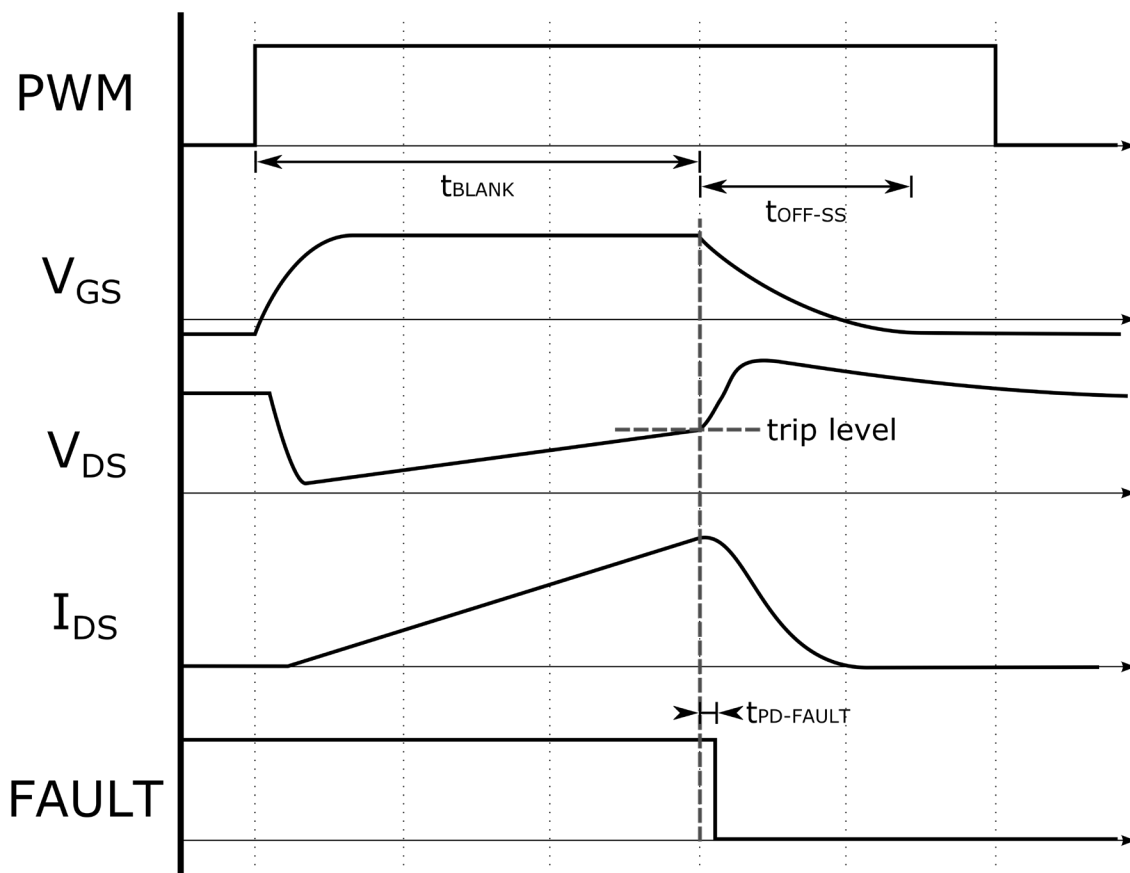

Figure 41: Overcurrent fault timing diagram
An overcurrent (OC) fault is an indication of a shoot-through or elevated current event in the SiC power module. The overcurrent protection circuit is implemented through a desaturation (DESAT) circuit which measures the drain-to-source voltage (V_{DS}). The fault will indicate if this voltage has risen above an acceptable current level based on the I_D vs V_{DS} characteristics of the device. When a fault has occurred, the corresponding gate driver channel will be disabled, and the gate will be pulled down through a soft turnoff circuit. The equivalent drain-to-source voltage for a particular overcurrent limit can be configured through onboard resistors. The overcurrent fault is latched upon detection and must be cleared by the user/controller with a high pulse of at least 500 ns on the $RESET$ signal of the gate driver. The CGD1200HB2P-BM2/3 ADuM4135 gate driver ICs with overcurrent protection and output connections are shown in Figure 37 for the high side and Figure 38 for the low side. The CGD1700HB2P-BM2/3 ADuM4146C gate driver ICs with overcurrent protection and output connections are shown in Figure 39 for the high side and Figure 40 for the low side. The various timing and voltage trip levels presented in Table 3 and Section 4.4.4 are defined notionally in the timing diagram shown in Figure 41.